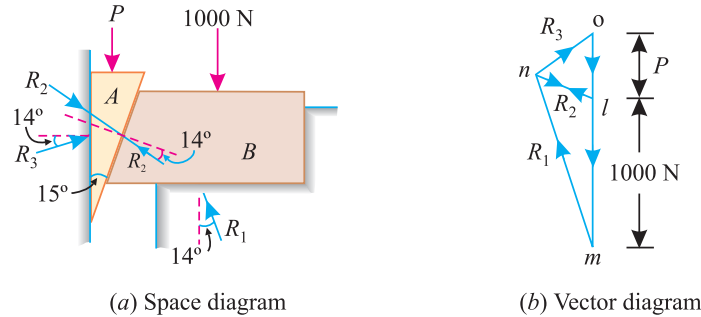

Fig. 9.16.
1. First of all, draw the space diagram for the body (B) and wedge (A) as shown in Fig. 9.16 (a). Now draw the reactions  $R_1$ ,  $R_2$  and  $R_3$  at angles of  $14^\circ$  with normal to the faces.
3. Now through  $l$  draw a vertical line representing the vertical force ( $P$ ). Similarly, through  $n$  draw a line parallel to the reaction  $R_3$  meeting the first line at  $O$  as shown in Fig. 9.16 (b).